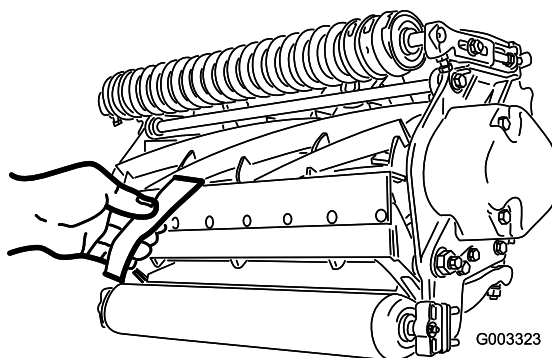

Figure 12
10. Test the cutting performance by inserting a long strip of cutting performance paper (Toro Part No. 125-5610) between reel and bedknife, perpendicular to the bedknife (Figure 12). Slowly rotate the reel forward; it should cut the paper.